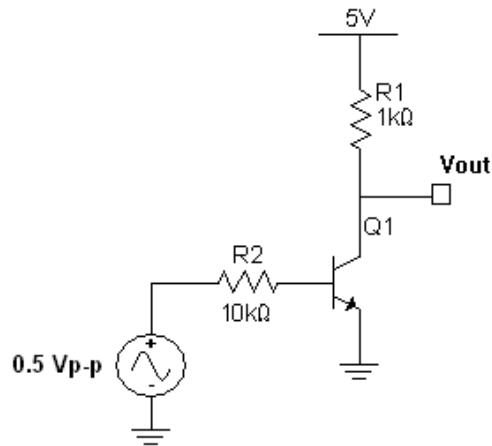

Figure 6.3
1. Connect the circuit in figure 6.3.
1. Analyze the circuit in figure 6.3 and fill the values you calculated in table 6.2. Include table 6.2 with your report.